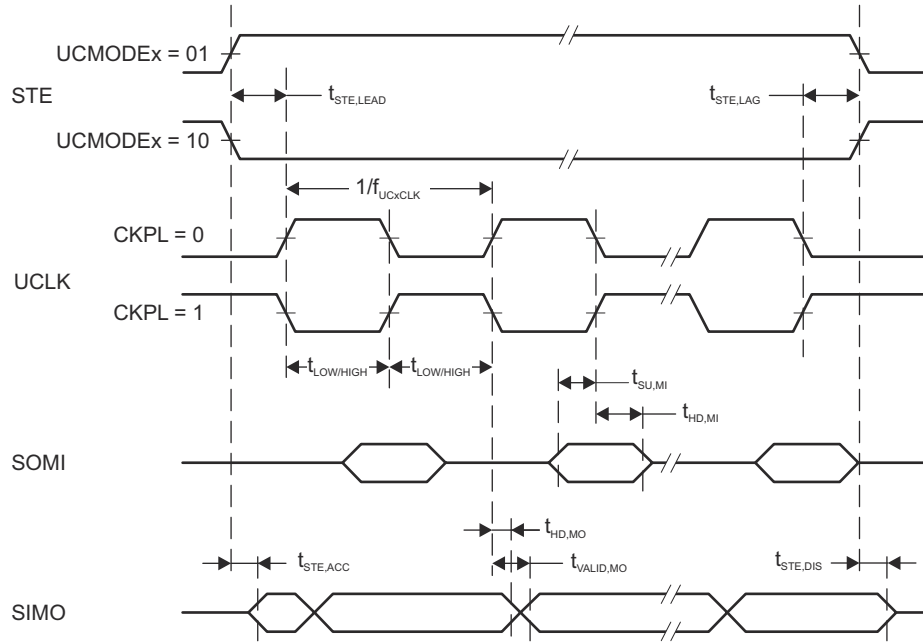
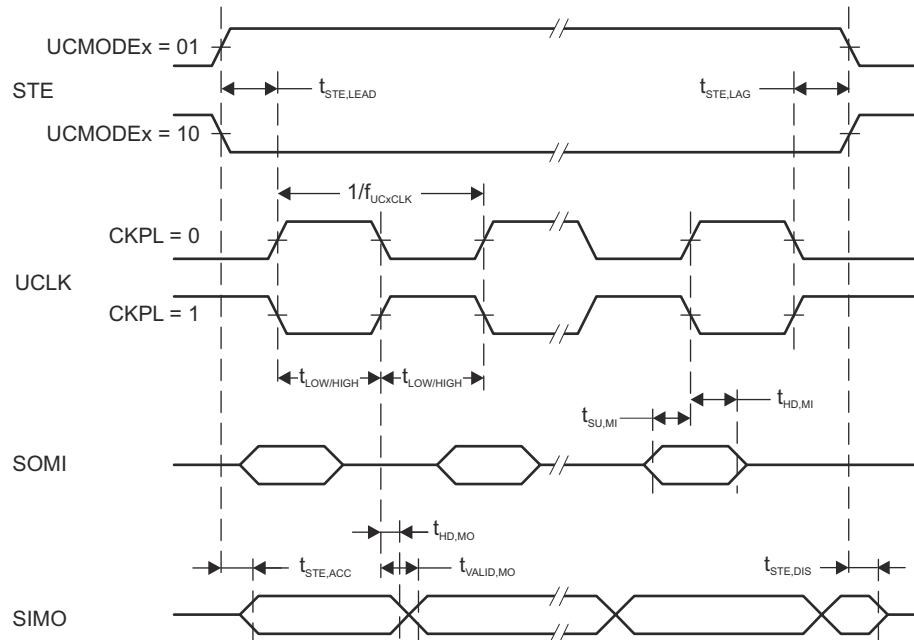

Figure 8-14. SPI Master Mode, CKPH = 0
Figure 8-15. SPI Master Mode, CKPH = 1
- (2) Specifies the time to drive the next valid data to the SIMO output after the output changing UCLK clock edge. See the timing diagrams in Figure 8-14 and Figure 8-15.
- (3) Specifies how long data on the SIMO output is valid after the output changing UCLK clock edge. Negative values indicate that the data on the SIMO output can become invalid before the output changing clock edge observed on UCLK. See the timing diagrams in Figure 8-14 and Figure 8-15.